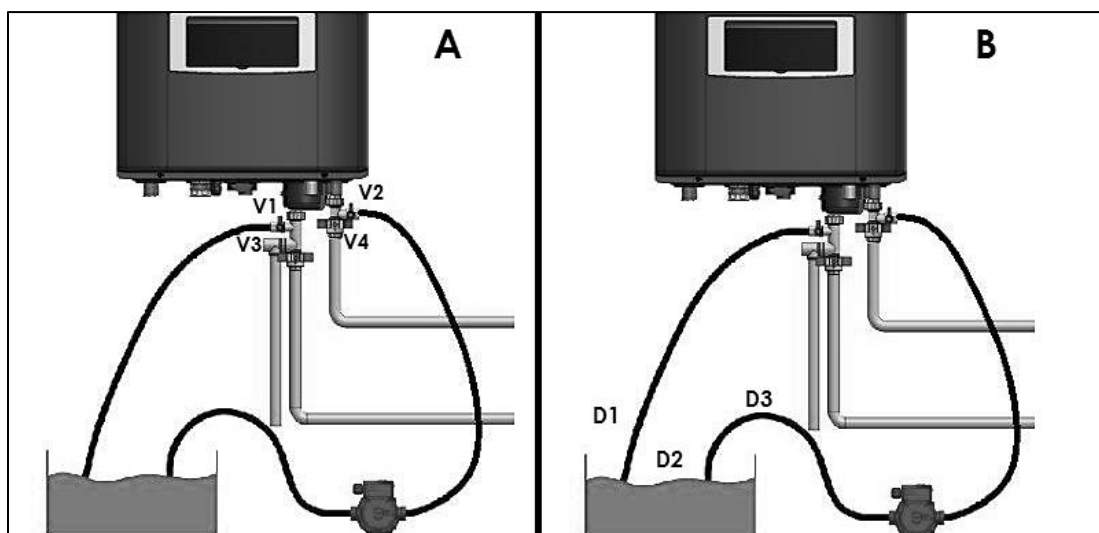

Figure 49 – A – Valve, and B – Hose Connection Details
2. Close the shutoff valves on both hot water outlet and cold water inlet lines (V1 and V2). See Figure 49-A.
3. Connect one hose (D1, Figure 49-B) to the valve (V3) and place the free end in a bucket. Connect one of the hoses (D3) to the circulation pump outlet and the cold water inlet line to valve V4. Connect the other hose (D2) to the circulation pump inlet and place the free end in the bucket.